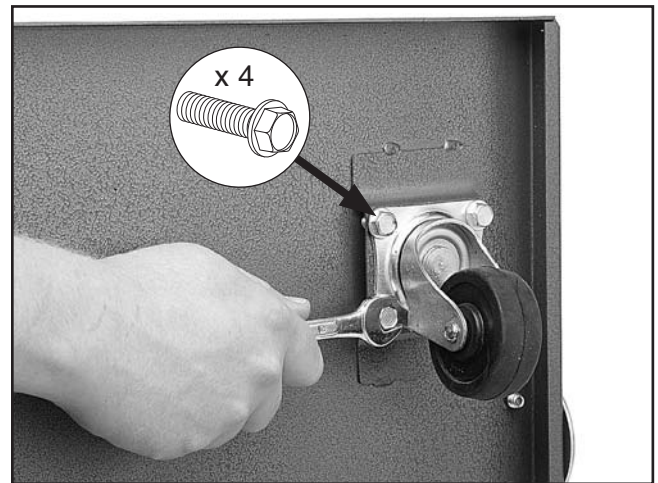

Figure 23. Mounting casters to base.
- Mount the casters to the base plate using (16) 5/16"-18 x 1/2" flange bolts, as shown in **Figure 23**.